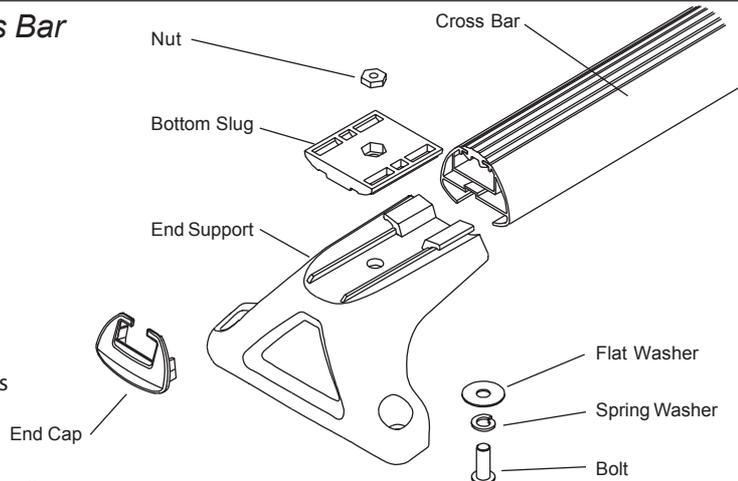

Fig. 2
- C. Loosely fasten using M8 Bolt, Spring Washer and Flat Washer. Assemble as shown in Fig. 2.